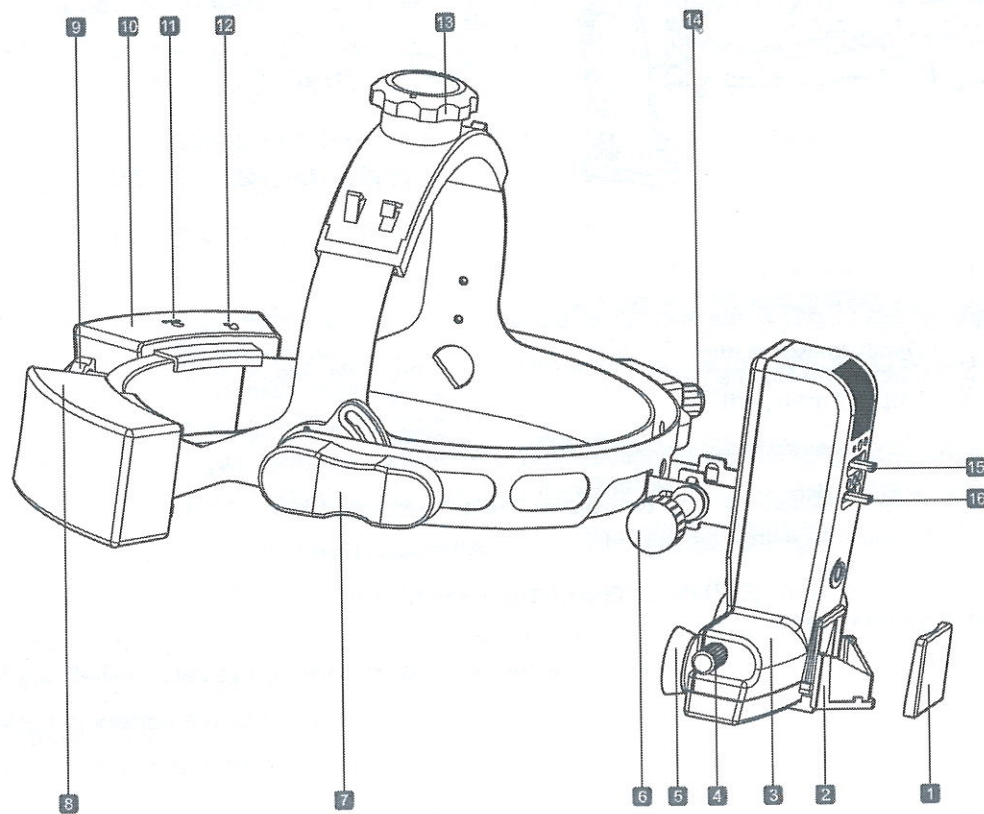

Fig.1
2. Construct feature of the ophthalmoscope (Fig.1)